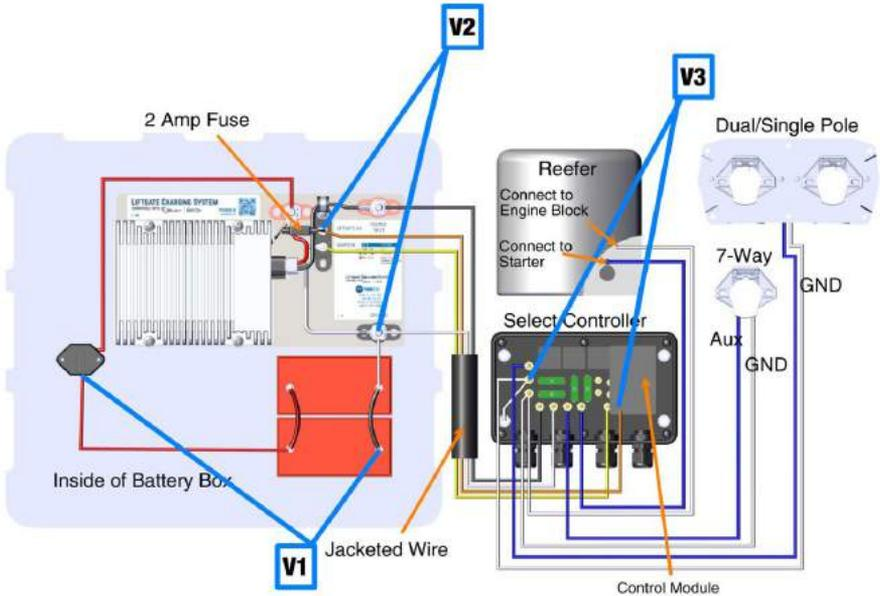

Figure 5
No LED: Open circuit between liftgate battery positive or liftgate battery ground and the Select Controller. Follow the steps below to diagnose the No LED Status (see Figure 5).
Step 1: Using a voltmeter, measure the voltage between the DC/DC converter side of the circuit breaker and the negative post on the liftgate battery (see V1 in Figure 5). If the reading is less than 12.0 V, charge or replace the batteries. If the battery reading is higher than 12.0 V, move to step 2.
Step 2: Using a voltmeter, measure the voltage between the positive and negative studs on the plate inside the battery box (see V2 in Figure 5). If there is no voltage reading, the issue is either the circuit breaker or the wire from one of these studs to the circuit breaker. Replace the circuit breaker or repair/replace the wire. If there is battery voltage, move to step 3.
Step 3: Using a voltmeter, measure the voltage between the ground stud from the 7-way/reefer and the liftgate battery positive stud inside the Select Controller (see V3 in Figure 5). Liftgate battery voltage should read 12.0 or higher. If not, check the 2-amp fuse and replace if necessary. If there is still no voltage reading, repair or replace the wires between the battery box and the Select Controller. Once these steps are completed, if there are still no LEDs, call customer service as the Select Controller may not be functioning properly.